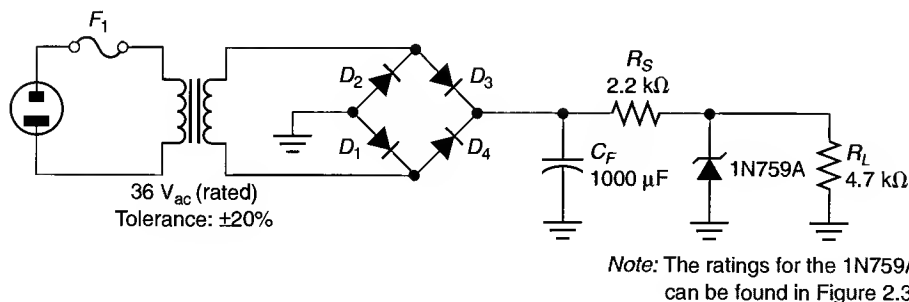

FIGURE 3.68
57. The circuit shown in Figure 3.68 has measured output values of $V_{dc} = 12\text{ V}$ and $V_r = 1.22\text{ V}_{pp}$. Determine whether or not there is a problem in the circuit. (Remember: Transformer tolerances can be as high as $\pm 20\%$.)
59. The primary fuse in Figure 3.68 must be replaced. Determine the minimum acceptable value for the fuse, assuming that its value must be 20% greater than the primary current. Assume you have the following rated fuses: $\frac{1}{8}\text{ A}$, $\frac{1}{4}\text{ A}$, $\frac{1}{2}\text{ A}$, 1 A , 2 A , and 5 A .